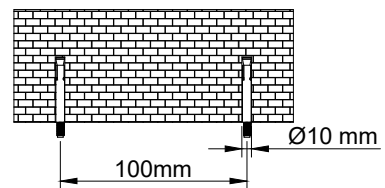

Figure 6
③ Open holes according to the above dimensions to install the explosive screws(Figure6)